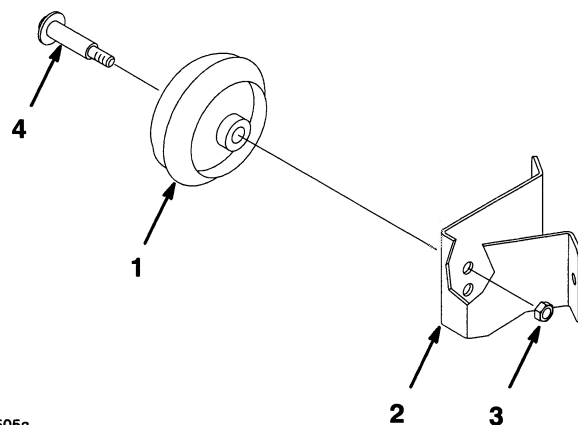

Figure 6
1. Mount the wheels onto the wheel brackets with wheel bolts and 3/8-16 lock nuts (Fig. 6). Use the same hole height on both sides. Refer to adjusting mower wheels.